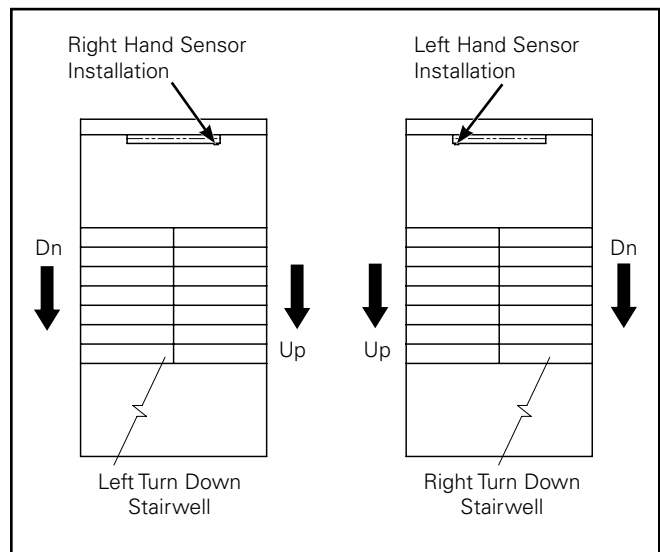

Figure 4.
1. From the diagram below, determine your stairwell orientation and the corresponding sensor location (Figure 4). The sensor head must be positioned to the side that coincides with the steps leading up from the landing the fixture is to be mounted.